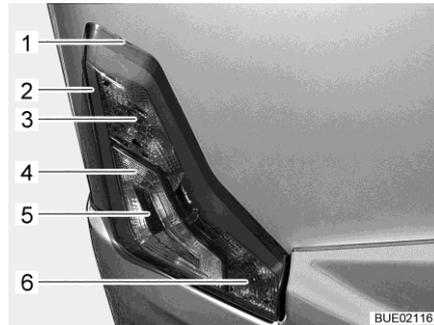

Fig. 291 Rear lights
- Insert flat tool into notch (Fig. 291,1) and carefully lever off the housing.